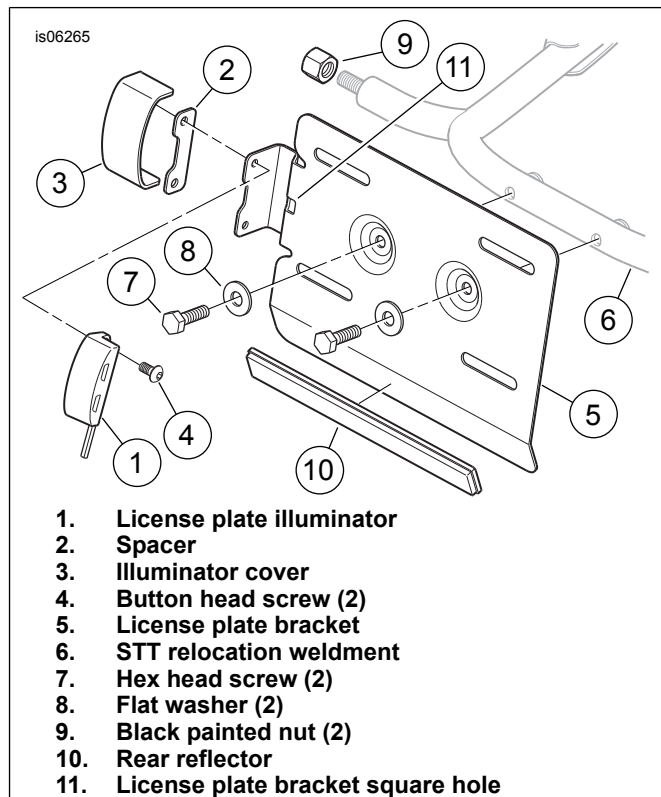

Figure 1. License Plate Illuminator Installation
- Removed from the original equipment (OE) license plate bracket on US models only.
- See Figure 1. Assemble the illuminator (1), spacer (2) and cover (3) to the license plate bracket (5) in the sequence shown, and tighten the screws (4) securely.
- Get the STT relocation weldment (6), two screws (7) and two flat washers (8) from the kit.
2. See Figure 1. Feed the license plate illuminator wire conduit through the square hole (11) on the left side of the license plate bracket.